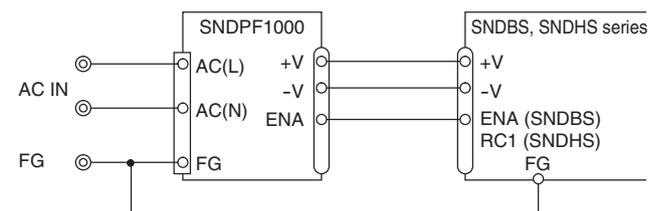

Fig.3.1 Standard connection method
■ To use SNDFPF1000, connection shown in Fig.3.1 and outside attached components are required. Through this connection, DC output voltage can be obtained from AC input voltage. AC input voltage and DC output voltage are not insulated.
- For connecting the SNDBS/SNDHS series, see Fig.3.1.